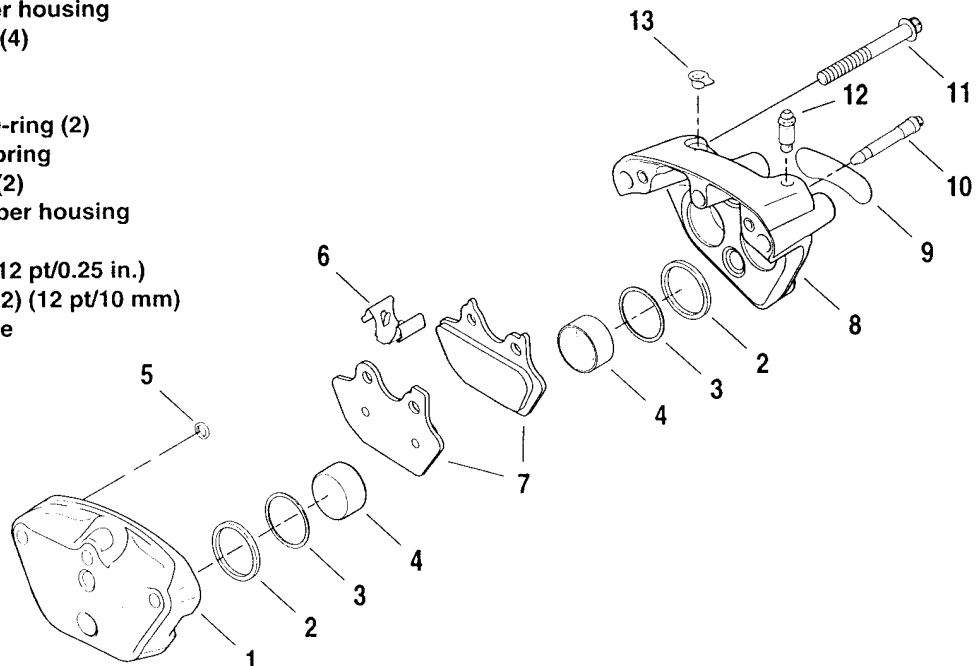

Figure 2-71. Front Brake Caliper
1. See Figure 2-71. Remove pad pins (10) (12 pt/0.25 in.), brake pads (7) and bridge bolts (11) (12 pt/10 mm) to separate caliper housings (1, 8).